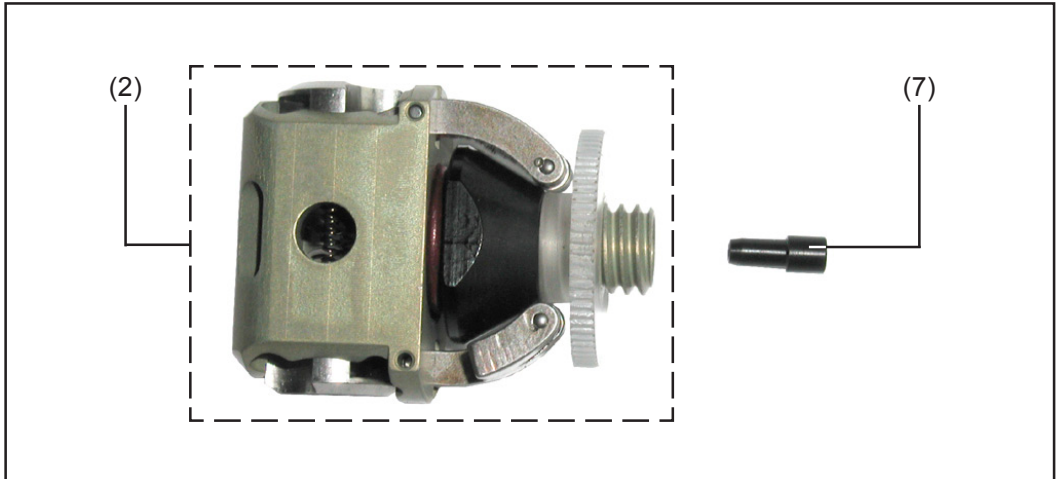

Fig.31 Removing the old wire infeed nozzle
- Insert the wire infeed nozzle (7) into the drive-head (2) (Fig.31)
- Hold the drive-head (2) up against the drive shaft
- Screw on the drive-head (2) by hand, finger-tight